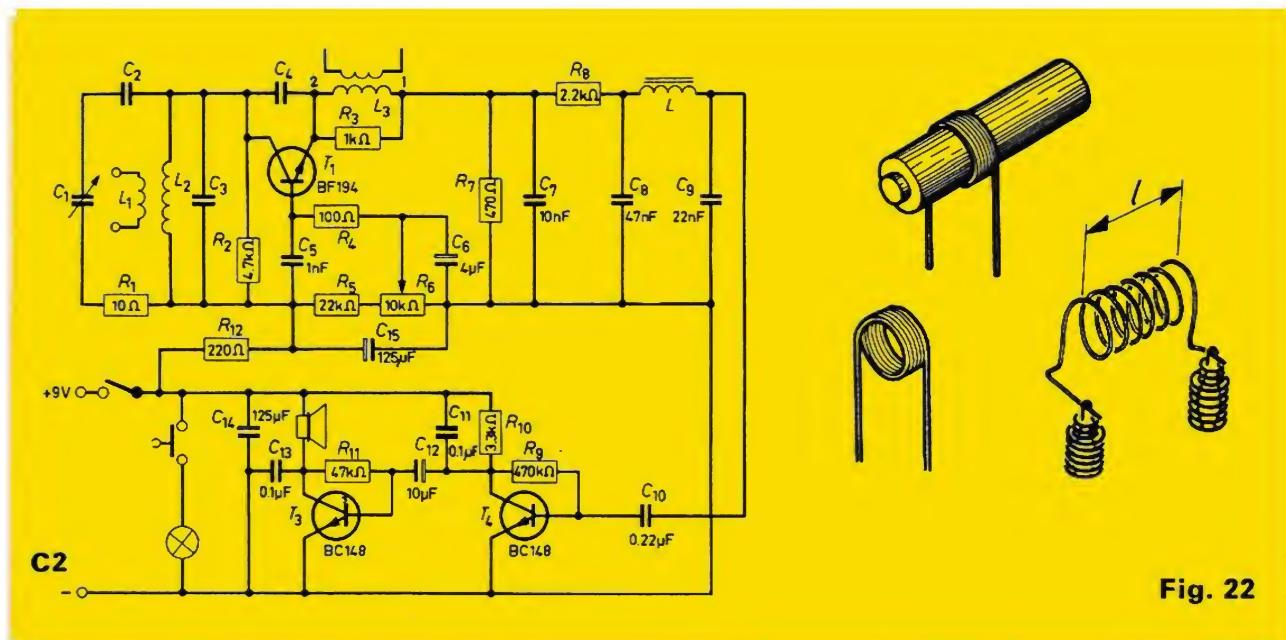

Fig. 22
frequency bands. Therefore you must exchange L1, C2, C3 and C4 (see table 3). L1 always has 2 or 3 windings. Now you have to make the coils as shown in fig. 22. For a diameter of 10 mm use the ferroxcube rod, for 16 mm use a penlite battery. The windings that are coiled close together must be separated until the coil reaches the proper length (1).